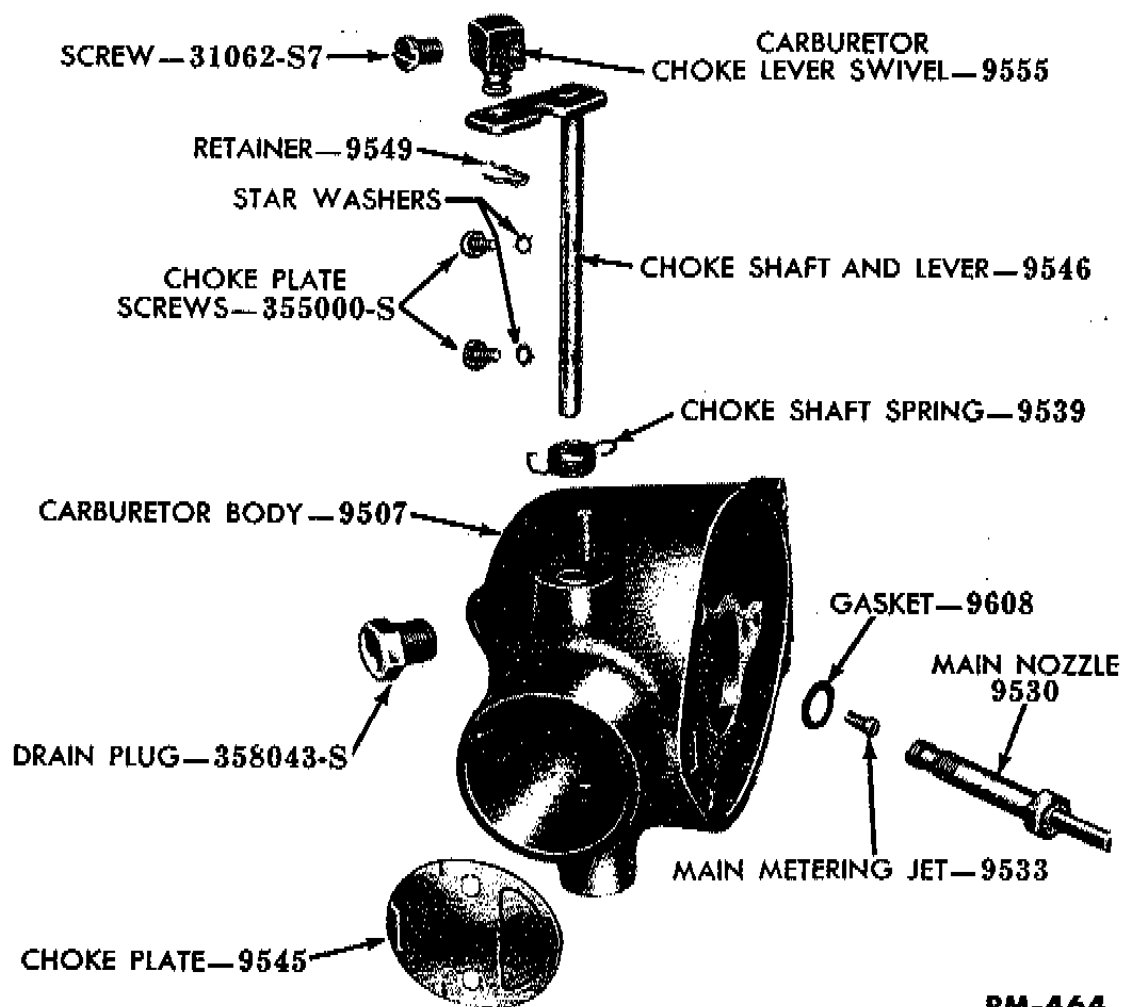

Figure 19—Carburetor Body, Disassembled
c. **Disassemble Carburetor Body.** Remove the main metering jet (fig. 19) with a screw driver or jet wrench. Remove the two screws and lock washers that secure the choke plate in the choke lever and shaft. Pull the choke plate out of the shaft with a pair of pliers. Remove the choke shaft and lever and choke return spring from the carburetor body.
d. Choke Shaft and Lever. Replace the choke shaft and lever (fig. 19) if the shaft is worn or bent, if the threads are stripped, or if the lever is damaged or loose on the shaft.
e. Choke Plate. Replace the choke plate (fig. 19) if the poppet valve spring is weak and will not hold the poppet valve closed. Replace the choke plate if the plate or poppet valve is bent or damaged.
h. Main Nozzle. Replace the main nozzle (fig. 19) if it is bent, or if the threads are stripped.
k. Choke Shaft Spring. Replace the choke shaft spring (fig. 19) if it is broken or weak.
a. **Assemble Carburetor Body.** Place the choke return spring on the choke shaft and lever. Install new felt seals on the lever end of the choke shaft. Install the choke shaft and spring in the carburetor body. Hook the choke return spring on the peg on the body and on the lever so that the choke shaft lever will rest on the peg. Install the choke plate in the choke shaft. While holding the choke plate in the closed position, install and tighten the two choke plate screws and washers. Install the maximum fuel limiting jet in the carburetor body (fig. 19) with a small screw driver or jet wrench. Install the main nozzle and new gasket.